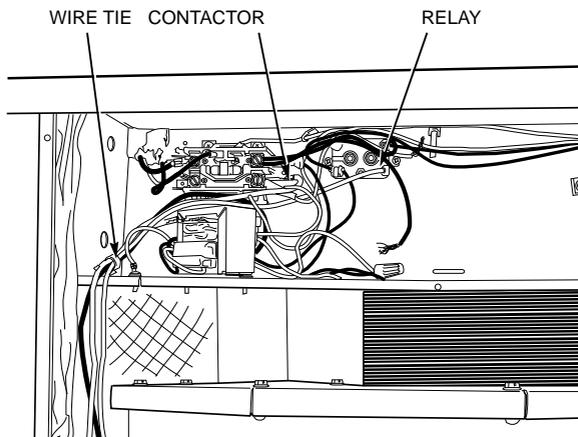

Fig. 19 — Fan Motor Leads
6. Disconnect evaporator-fan motor leads from evaporator-fan relay and unit contactor. Carefully disengage wire tie containing evaporator-fan motor leads from the unit control box (Fig. 19).
- Secure using screw removed in Step 7. Reconnect evaporator-fan motor leads and insert wire tie back into unit control box (Fig. 19).